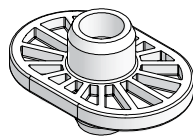

Fig. 25.2
- All other StarTec panels with the safety bolt AS/ST black (Fig. 25.2).